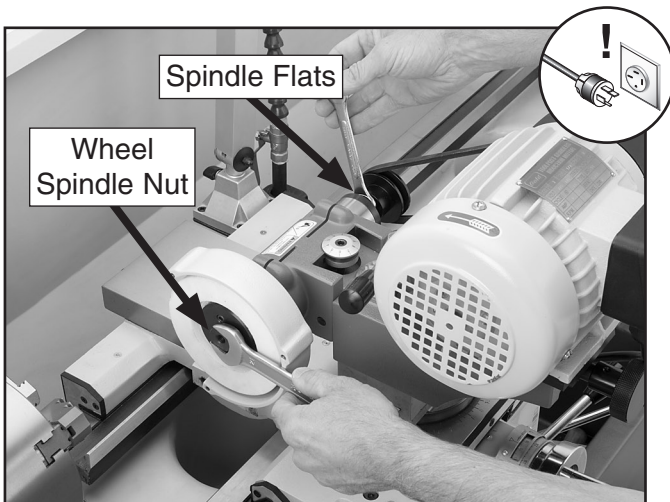

Figure 11. Removing the external wheel spindle nut.
3. Remove the screws and flat washers securing the external wheel guard cover, then remove the cover to expose the wheel spindle nut, as shown in **Figure 11**. Store the wheel guard, screws, and flat washers in a dry, protected location for later use.
4. Use a wrench on the flats of the right-hand spindle to keep it from turning, then unthread and remove the external wheel spindle nut, as shown in **Figure 11**.
- Use a wrench on the flats of the right-hand spindle to keep it from turning, then unthread and remove the internal wheel (see **Figure 11**).